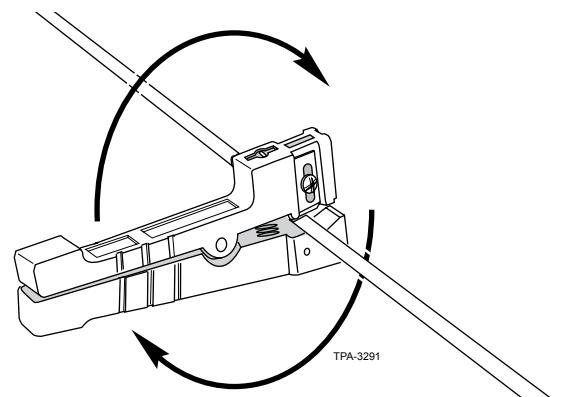

Figure 4
- Hold the cable steady with one hand to prevent it from twisting. Use your other hand to rotate the tool one complete turn around the cable sheath to score it (Figure 4). Remove the tool from the cable.